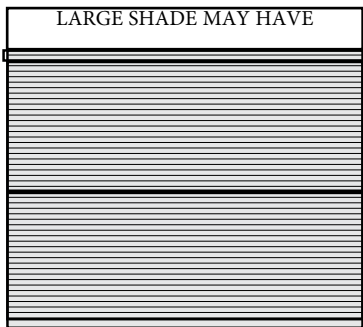

Fig. 3
- Ordered shades that are larger (both width and height) than the maximum fabric size may need to be made with a visible seam. (Fig. 3). This only applies to fabrics that can be turned width for height (railroaded).